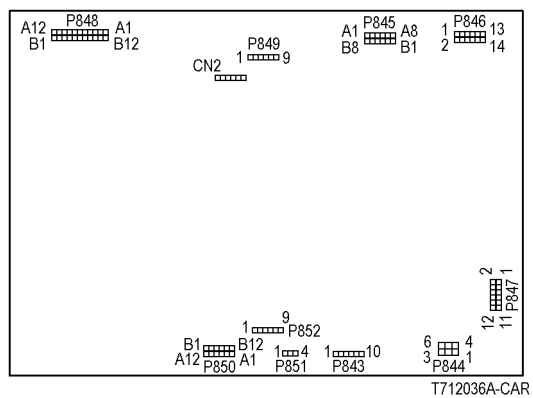

Figure 4 Finisher PWB
- Replace the Finisher PWB (PL 17.13) (Figure 4).
Replace the Finisher PWB (PL 17.13) (Figure 4).